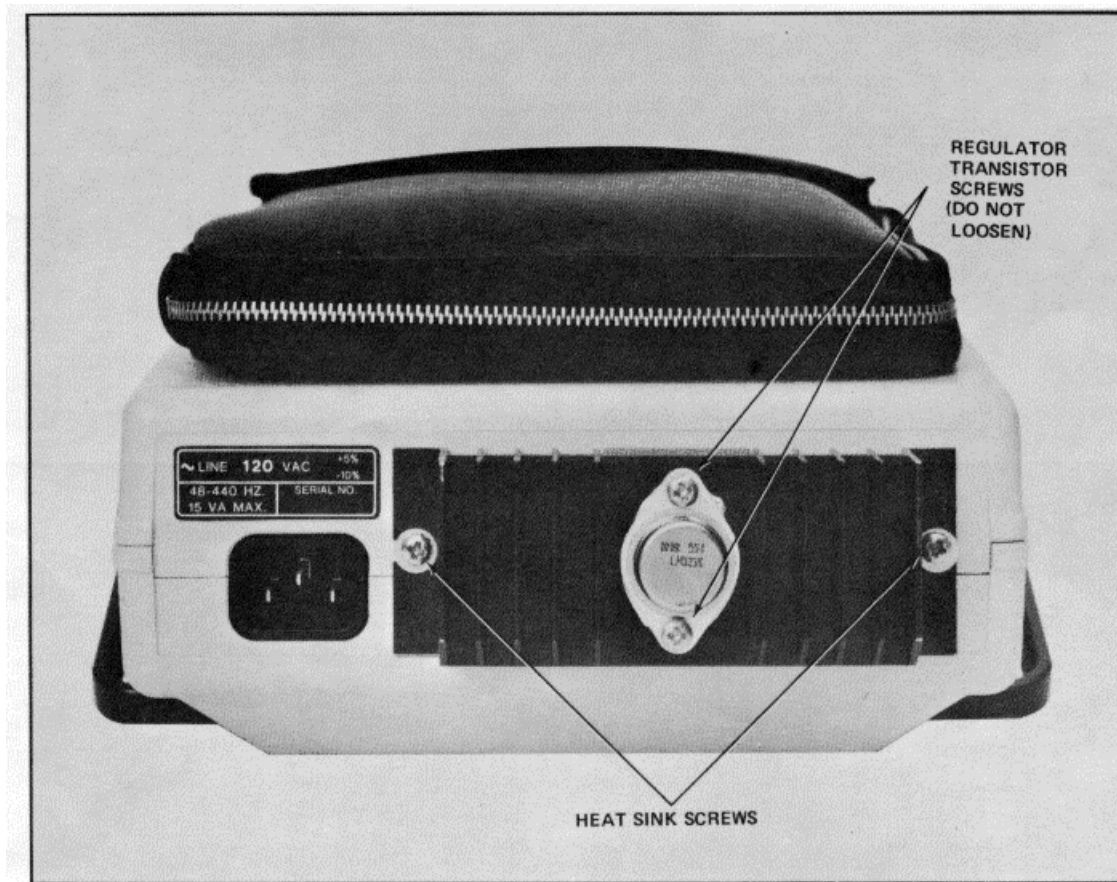

Figure 8-2. Heat Sink Screws Locations
3. On the back panel of the 5004A loosen the two screws at the ends of the heat sink three or four turns (*see Figure 8-2*)
**DO NOT loosen the transistor retaining screws (see Figure 8-2).**